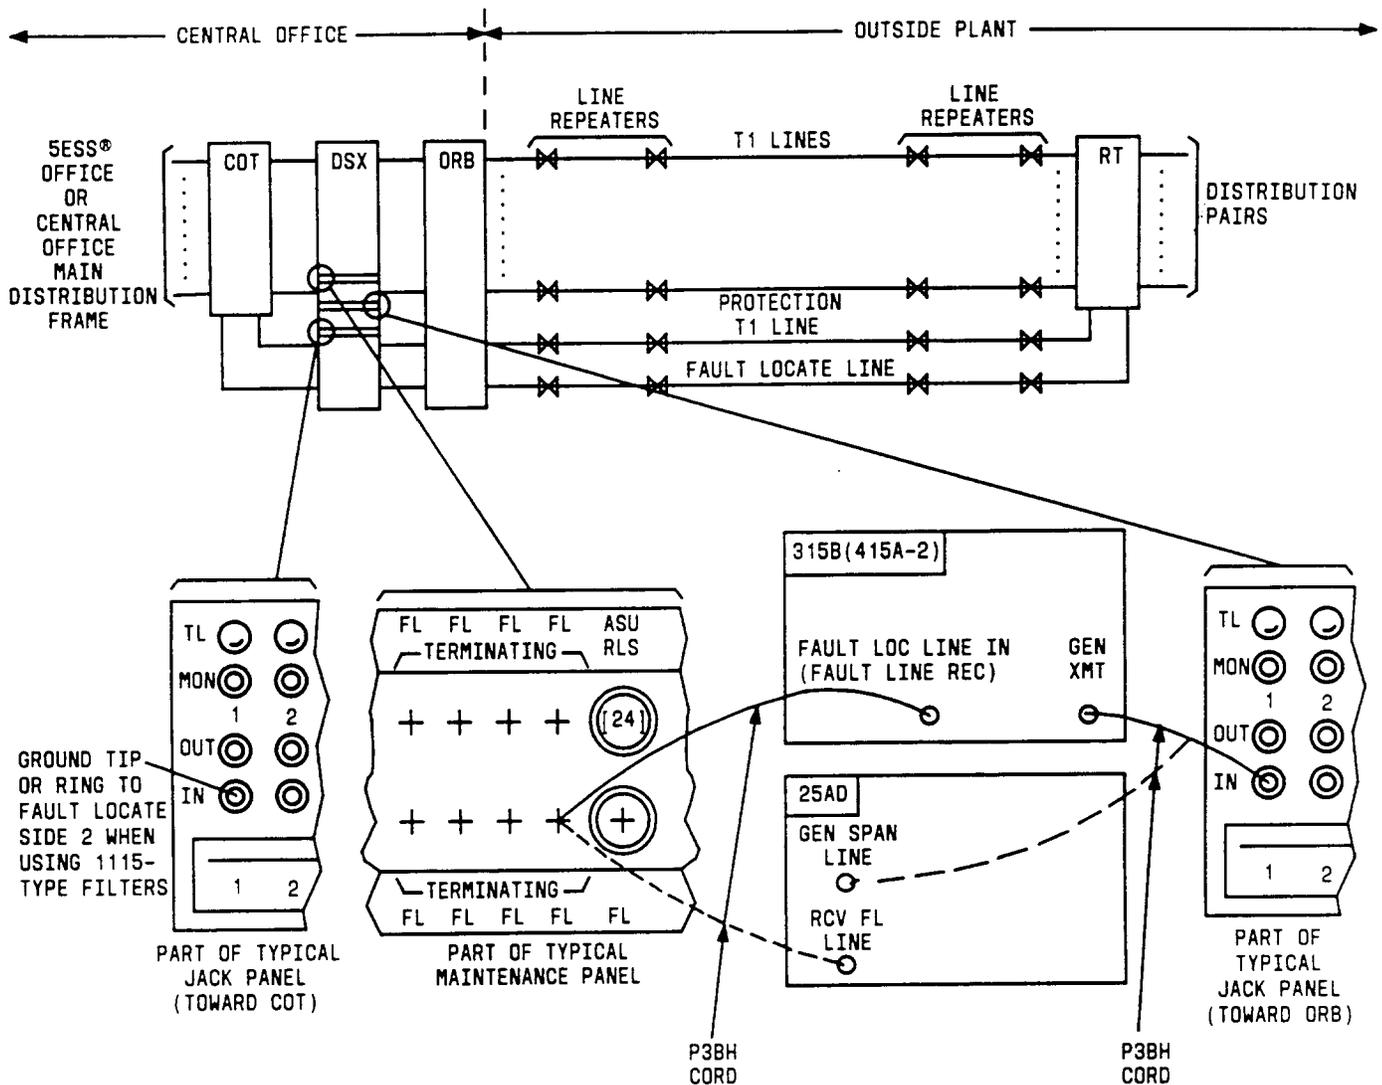

Fig. 2—Typical DSX Cross-Connect Fault-Locating Configuration
15. Make maintenance panel test connections as shown in FIG. 2.
34. Disconnect fault-locate and test connections (FIG. 1 and FIG. 2).
10. Record reading on FLR (fault-locating record) form (FIG. 2).